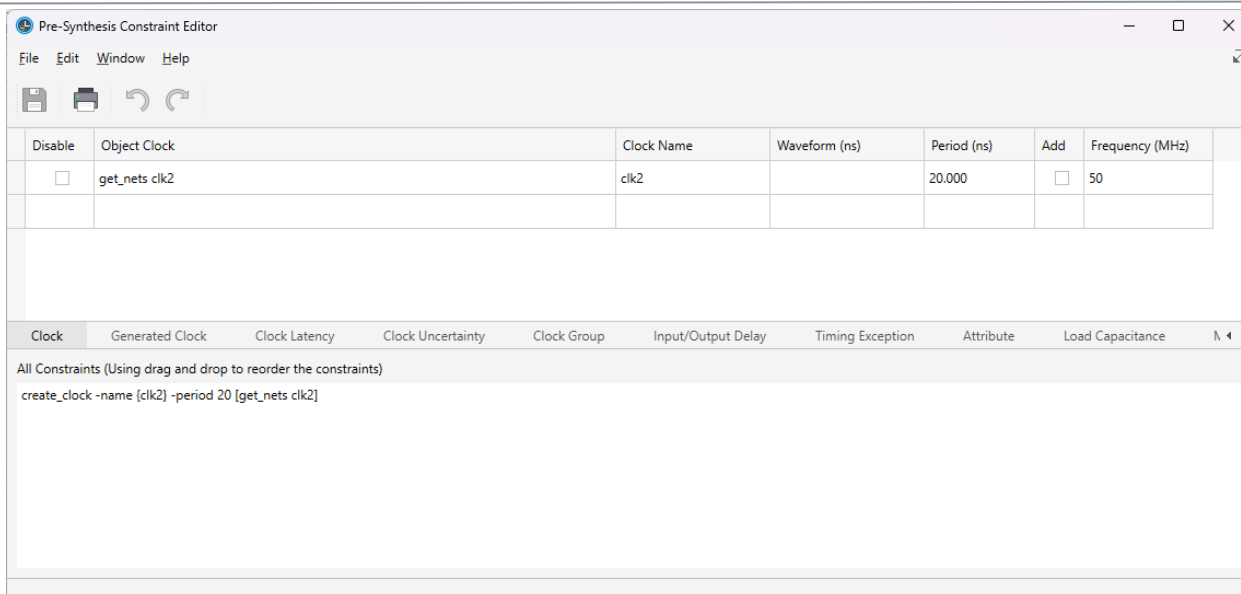

Figure 29: Pre-Synthesis Timing Constraint Editor
7. Click in the Frequency cell and enter 50 MHz as shown in Figure 29.